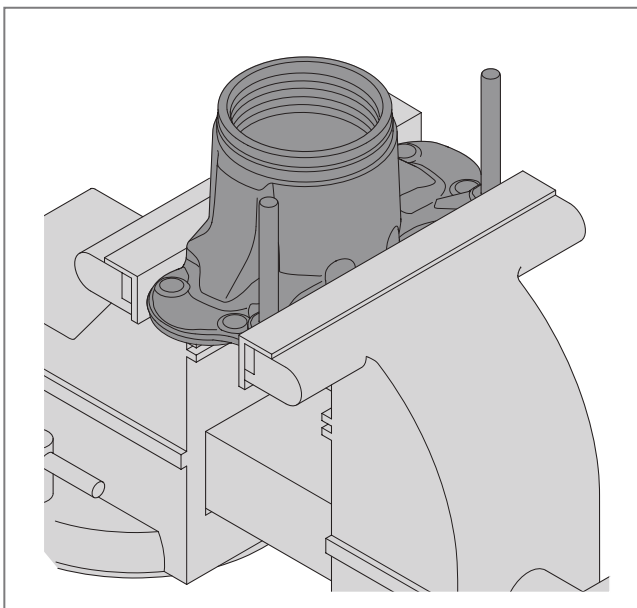

Fig. 50 - Clamping device for the thrust plate
1. Fasten the thrust plate securely in a vice with soft jaws, see ► Fig. 50. Do not over tighten or damage the thrust plate whilst clamping!